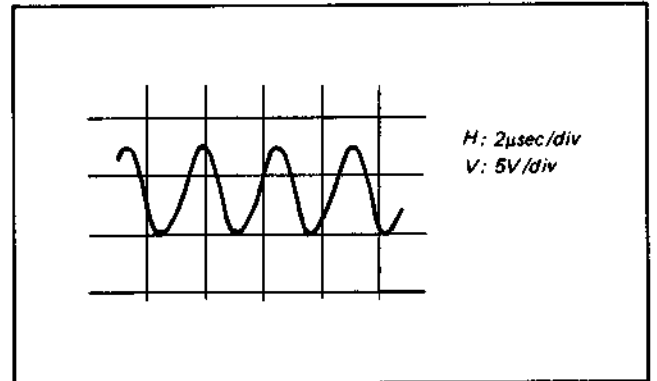

Fig. 4-2-1. Adjustment of clock oscillating frequency
- (2) Adjust T501 for $400\text{ kHz} \pm 0.5\text{ kHz}$. (See Fig. 4-2-1.)
- (2) Adjust T1 for $400\text{ kHz} \pm 0.5\text{ kHz}$. (See Fig. 4-2-1.)
- (2) Adjust T2 for $400\text{ kHz} \pm 0.5\text{ kHz}$. (See Fig. 4-2-1.)